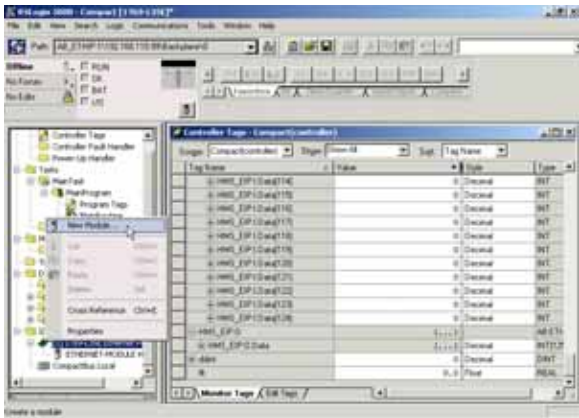

FIG. 291: I/O CONFIGURATION/ADDING A NEW MODULE
Step 2. Right click the EtherNet/IP module/bridge in the I/O configuration. (See Fig. 291)